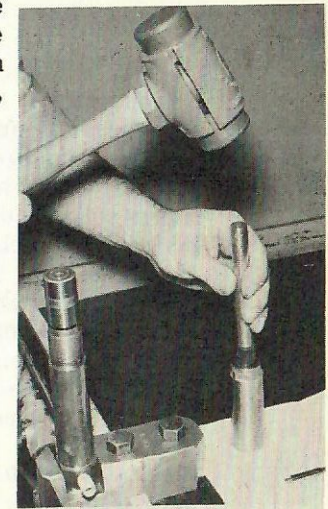

FIG. 74-1
1. Place the nozzle holder assembly in the holding fixture with the nozzle pointing upward and using the correct size box wrench, unscrew the nozzle cap nut, Fig. 73-1; carefully remove the spray nozzle (do not use a pipe wrench). The nozzle valve and body are a mated assembly and cannot be interchanged with lapped parts from other spray nozzles. Protect the lapped surface at the end of the nozzle holder by screwing the nozzle cap nut back in place. If nozzle is stuck in nozzle holder cap nut because of carbon formation, carefully remove by using a brass rod, one end of which conforms with the contour of the nozzle tip, Fig. 74-1.